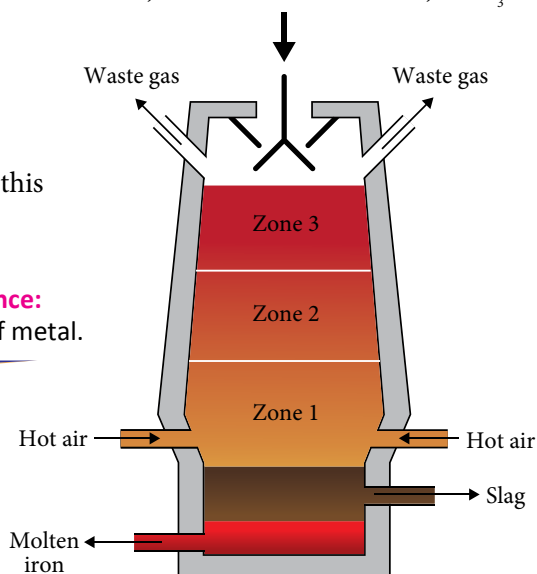

Figure 1.38 Blast furnace
- There are several important reactions involved in this extraction process. Let us study Figure 1.38.